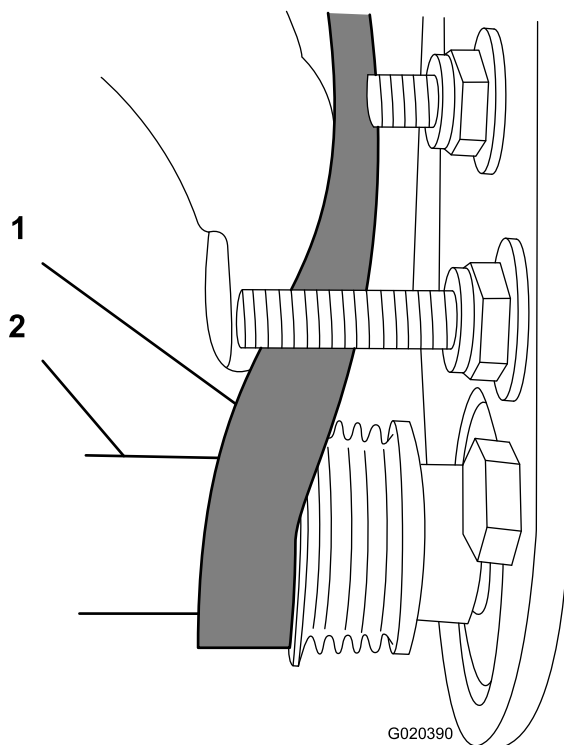

Figure 24
- C. Use a 9/16-inch deep-well socket to rotate the brush assembly and guide the belt onto the driven pulley (Figure 24).